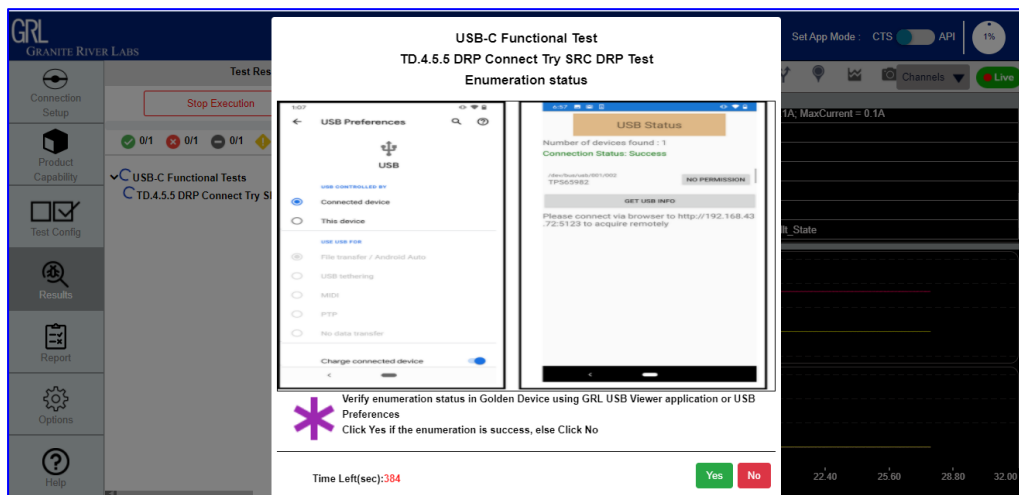

FIGURE 5.13: VERIFY ENUMERATION STATUS OF GOLDEN DEVICE #1
5. As tests are running, the following screen will appear (Figure 5.13) to check for Enumeration status of the golden device.